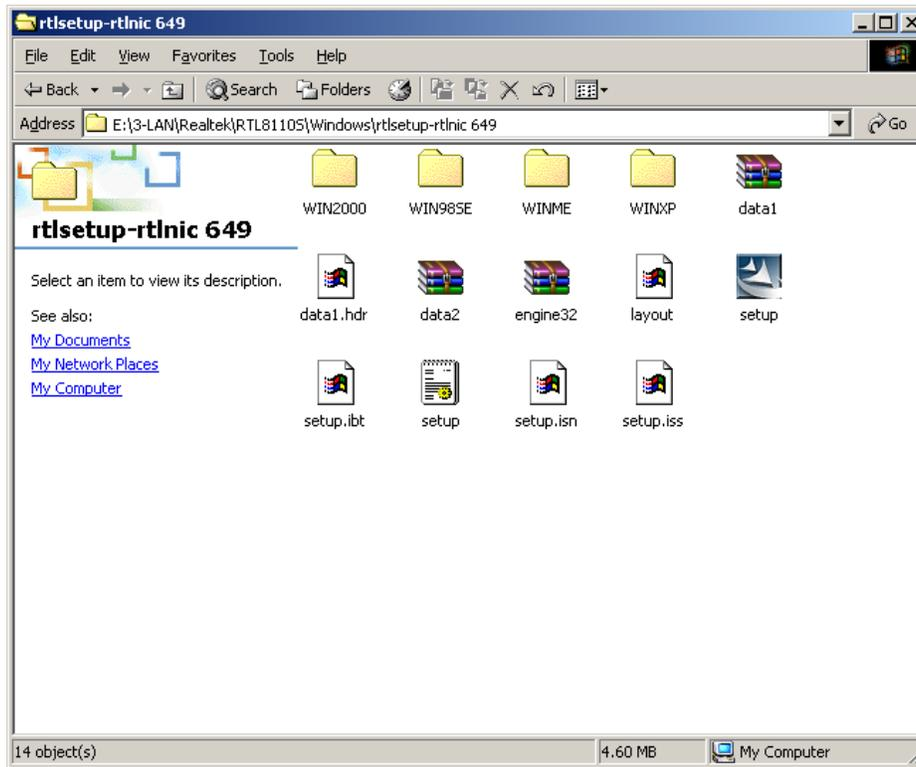

Figure 6-26: LAN Setup Icon
Step 6: Select the Setup icon shown in **Figure 6-26**.